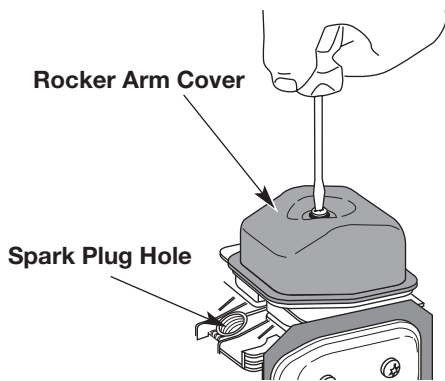

Fig. 53
- Clean dirt from around the rocker arm cover. Remove the screw holding the rocker arm cover with a large flat blade screwdriver or Torx T-25 bit (Fig. 53). Remove the rocker arm cover and gasket.
- The piston is at the top of its travel while looking in the spark plug hole (Fig. 53)